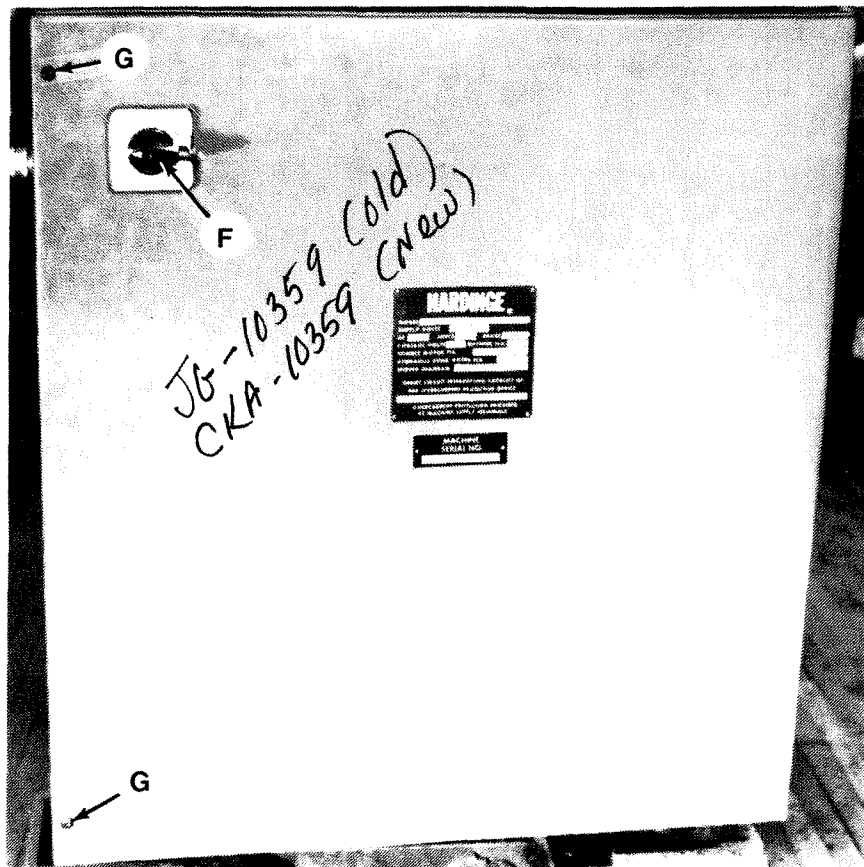

Figure 5.2 - Power Case (External View)
Be sure disconnect switch "F", Figure 5.2, is turned OFF before opening the power case door.
2. Turn main disconnect switch "F", Figure 5.2, to the OFF position.
Be sure disconnect switch "F", Figure 5.2, is turned OFF before attempting to service the variable speed control panel.
When main disconnect switch "F", Figure 5.2, is turned ON, switch "R", Figure 5.9, turns the machine ON when pulled OUT and turns the machine OFF when pushed IN.